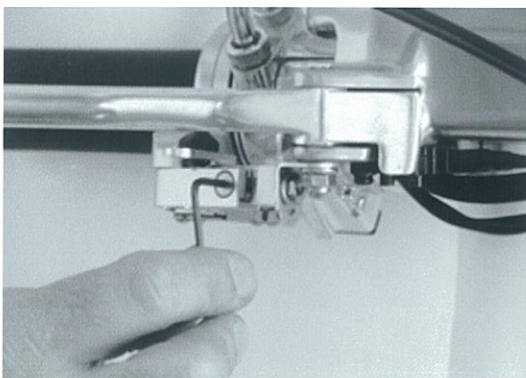

Figure 18
- 3.7 Tighten the Slide Lock Screw(16) in the front of the Swivel(5) (**Figure 18**). Make sure the Swivel(5) and the Slide(6) stay in position as you tighten the screw.